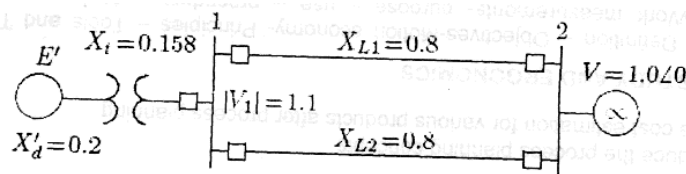

Fig.8
- (b) (i) Define steady state stability and stability limit with the help of curve. Power-Power angle curve. What are the techniques available to improve steady state stability? (6)
- (ii) A 60-Hz synchronous generator has a transient reactance of 0.2 per unit and an inertia constant of 5.66 MJ/MVA. The generator is connected to an infinite bus through a transformer and a double circuit transmission line, as shown in Figure 8. Resistances are neglected and reactances are expressed on a common MVA base and are marked on the diagram. The generator is delivering a real power of 0.77 per unit to bus bar 1. Voltage magnitude at bus 1 is 1.1 p.u. The infinite bus voltage  $V = 1.06 \angle 0$  per unit. Determine the generator excitation voltage and obtain the swing equation.